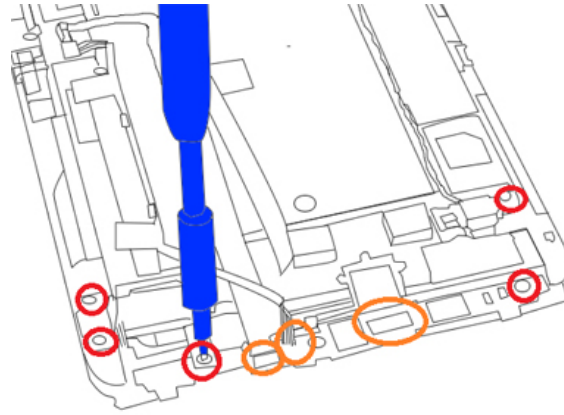

Figure 4
- On the lower side of the Flyer we have the USB circuit board. There will be two (2) Torx T5 screws and one (1) connection to be released which is the wire connection as shown in Figure 4.
- Remove the one (1) Torx screw holding the vibrate motor cover and speaker in place. With this removed, the full speaker/vibrate motor assembly can be removed from the device.